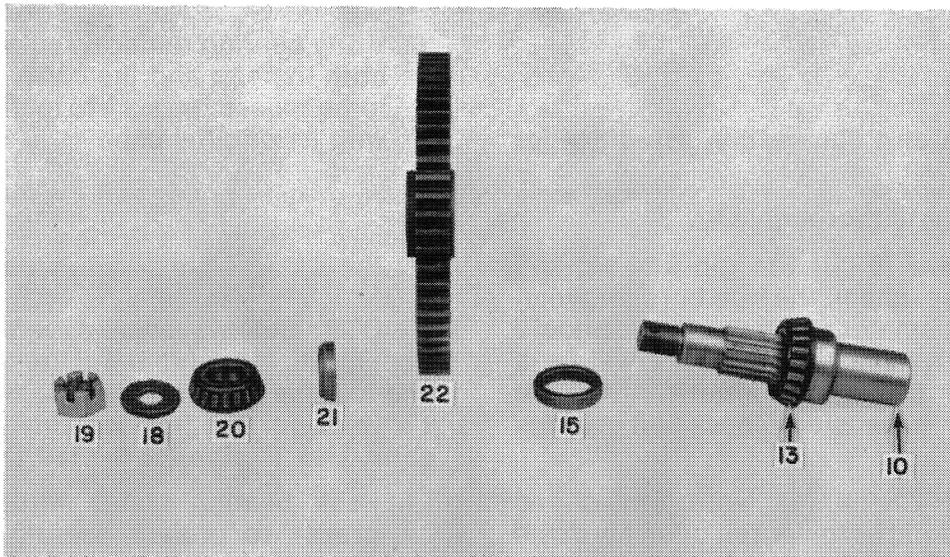

FIGURE 13
8. Install straight spacer (15) next to the R.H. output bearing cone (13). Install the shaft in the R.H. cup, spacer, and gear. Install spacer (21) **with bevel out**. See Figure 13. Install L.H. cone (20), heavy flat washer (18), and slotted nut (19).